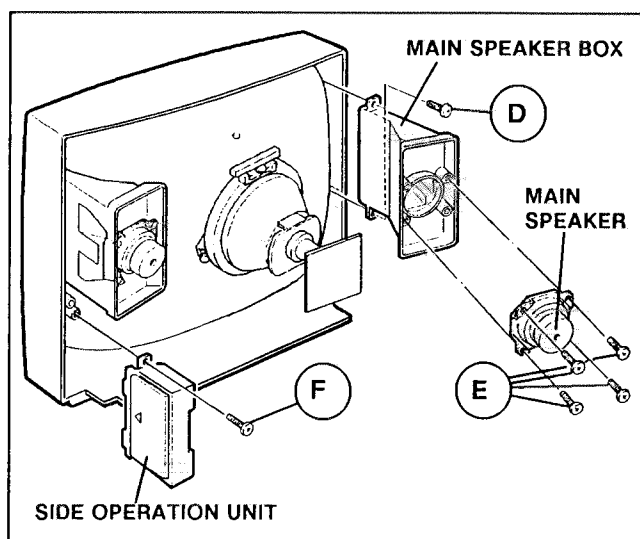

Fig. 2
1. Remove the four screws marked ① as shown in Fig. 2.
2. If the MAIN SPEAKER BOX is removed, remove the two screws marked ② as shown in Fig. 2.
1. Remove the one screw marked ③ as shown in Fig. 2.